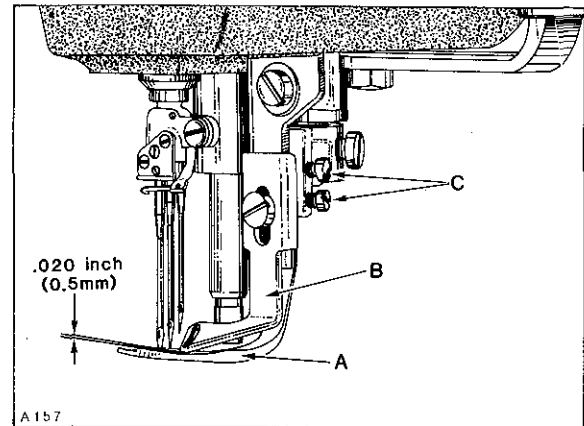

Fig. 27
**IMPORTANT:** Care must be taken to maintain the  $1/16$  inch (1.6mm) dimension between the left rear edge of SLOT in stationary spreader thread guide to centerline of right needle, while tightening screw (A) securely.
Spreader (A, Fig. 27) should be positioned so its upper surface clears the lowest edge of stationary guide (B) by  $.020$  inch (0.5mm) and the rear side of spreader blade should clear the shank of left needle by  $1/64$  to  $1/32$  inch (0.4 to 0.8mm) throughout its arc of travel. Adjustment can be made by loosening screws (C), reposition as required and retighten screws securely.